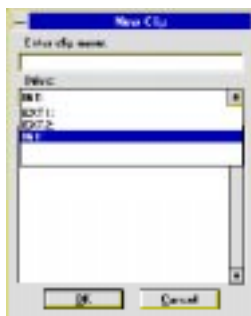

Figure 163. New Clip dialog box
2. Choose **VideoClip | New Clip** to access the New Clip dialog box (Figure 163).